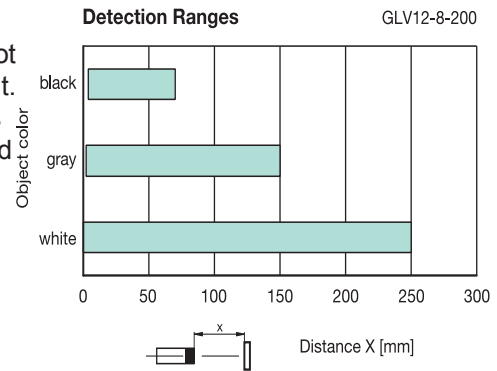
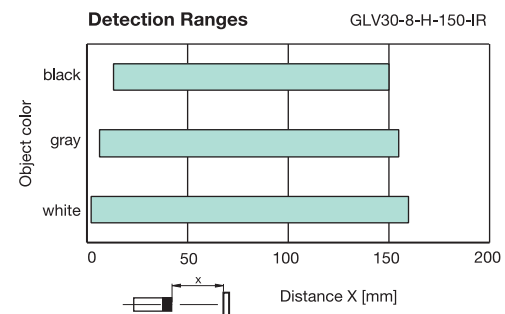

Figure 1
Figure 2
Targets can vary greatly in color and this will directly affect the range of the sensor. This varying sensing distance is known as black-white differential. The black-white differential is simply the difference in distance between where a diffused sensor detects a 90% reflective white card vs. a 6% reflective black test card under the same conditions. Sensor manufacturers normally provide black-white differential data in the form of a graph so that customers have a guideline when applying them to the application. Figure 1 shows a typical black-white differential graph for a standard diffused mode sensor
As seen in Figure 1, color significantly affects sensing range for a diffused mode sensor, as the black-white differential for the sensor is approximately 190 mm. The dramatic reduction in sensing range is due to the fact that standard diffused sensors recognize a target based on the light reflected back to the sensor's receiver. The received light must be strong enough to overcome any ambient light or any electrical noise at the sensor's receiver. If the target is black, it absorbs large amounts of energy and therefore must be close to the sensor in order to return enough of the emitted light to be detected.
As shown in Figure 2, diffused mode with background suppression is far less sensitive to target color. For this sensor, the sensing range is almost identical for black and white targets with a black-white differential of only 10 mm—far less than the 190 mm seen in the standard diffused sensor from Figure 1.
Diffused mode sensors with background suppression can use either visible red or infrared (IR) light sources. The sensor depicted in Figure 2 shows the black-white differential for a sensor with an infrared light source. The obvious benefit of visible red is that alignment from the photoelectric sensor to the target is simplified. Using an IR light source eliminates this visual aid, but its advantages lie in its higher power and superior color insensitivity. As infrared is more efficient than visible red and can be driven by larger current pulses, it has a higher optical power output and can operate at longer sensing ranges. Background suppression photoelectric sensors with IR sources have smaller black-white differentials compared to similar sensors with visible red sources.
The variable range feature makes the Series 28 sensors effective on a variety of applications. The ability to define the sensing range is particularly useful on rotary tower systems (Figure 2), which feature a carriage that rotates around the package. When the sensing range is adjusted to the width of the conveyor, the sensor ignores everything beyond the conveyor belt.